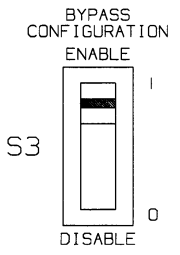

FIGURE 2
- 2.3 IF INPUT AND OUTPUT VOLTAGE, FREQUENCY AND PHASE DISPLACEMENT ARE IDENTICAL, AND BYPASS IS DESIRED, SET THE BYPASS CONFIGURATION SWITCH S3 TO THE "ENABLE" POSITION, AS SHOWN IN FIGURE 2.
- 2.4 IF INPUT AND OUTPUT VOLTAGE, FREQUENCY AND PHASE DISPLACEMENT ARE NOT IDENTICAL, OR IF BYPASS IS NOT DESIRED, SET THE BYPASS CONFIGURATION SWITCH S3 TO THE "DISABLE" POSITION, AS SHOWN IN FIGURE 2.